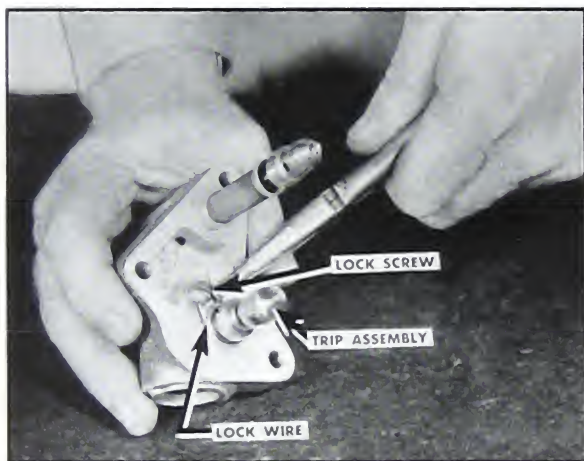

Fig. 5-262. Lock wire screw
9. Wire the lock screw by passing safety wire through the screw hole and over the trip assembly. Fig. 5-262.